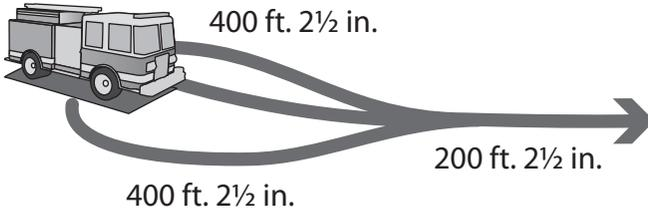

Fig. 2-5. Three 2½" supply lines feeding one 2½" line
**Question:** What is the total friction loss when three 2½" supply lines 400 ft long are joined into one 2½" attack line 200 ft long using a 200-gpm fog nozzle (fig. 2-5)?